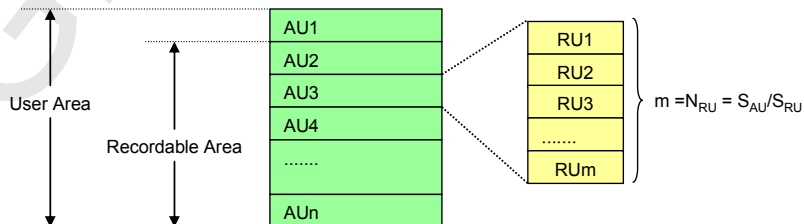

Figure 4-47: Definition of Allocation Unit (AU)
4.13.1.1 Allocation Unit (AU)
The user Area is divided into units called "**Allocation Unit (AU)**" (Refer to Figure 4-47). Each card has its own fixed **AU Size (S_{AU})** and the maximum AU Size is defined depending on the card's capacity. The host should manage data areas with the unit of AU. If the first AUs in the card contain file system information then they should not be used for real time recording. An AV application should start recording from the first complete AU, to which only user data can be recorded. Note that this specification does not apply to the Protected Area.
4.13.1.2 Recording Unit (RU)
Each AU is divided into units called "**Recording Unit (RU)**" (Refer to Figure 4-47). The unit of **RU Size (S_{RU})** is 16KByte. The RU Size is a multiple of 16KByte and shall not span across an AU boundary.